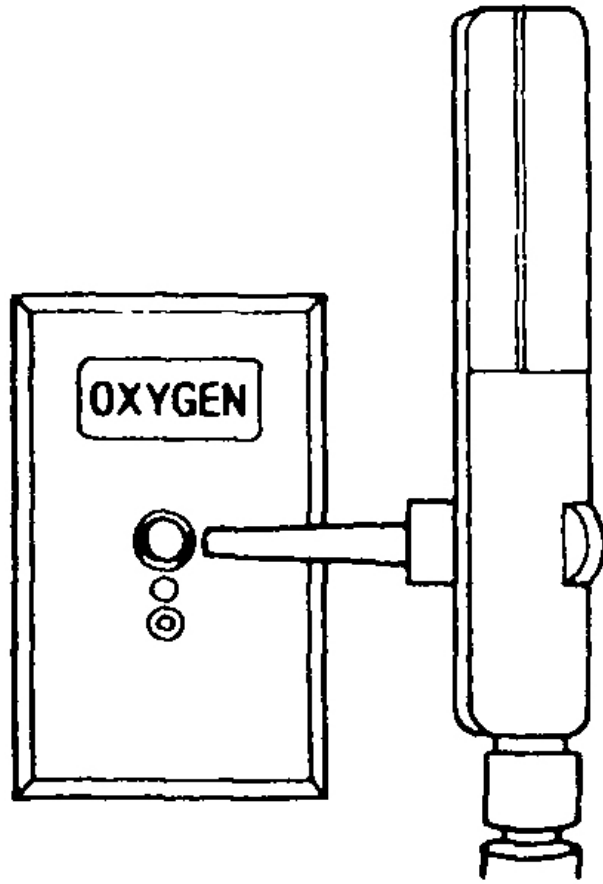

Figure 3-16. Attaching flow meter to "quick connect" coupler.
(3) Distilled water. One liter of distilled water will be needed for the humidifier.
(4) Delivery device. Obtain the packaged nasal prongs or face mask as per physician's order or supervisor's directive.
f. **Attach Flow Meter to Wall Unit.** Close or turn the flow-adjusting valve of the flow meter to the "off" position. (Closing or turning the flow adjusting valve/dial to the "off" position will prevent damage to the gauge caused by a sudden influx of oxygen under pressure.) Insert the flow meter adapter into the opening of the oxygen outlet (figure 3-16) and press until a firm connection is made. You will hear a small "hiss" when the connection has been made.